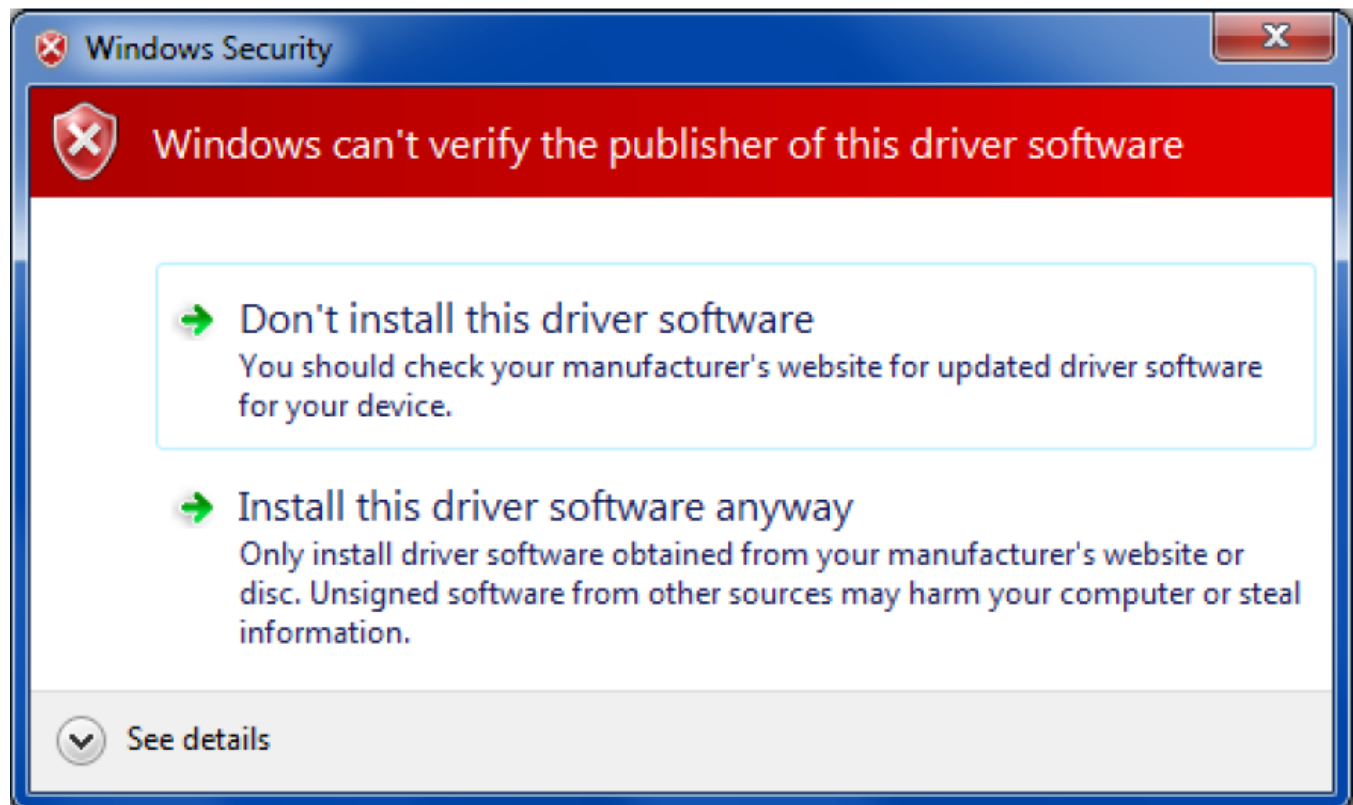

Figure 18. Windows Publisher Verification Warning
5. There may be a warning that Windows cannot verify the publisher of this driver software, as shown in Figure 18. Choose to install the driver software anyway to proceed.